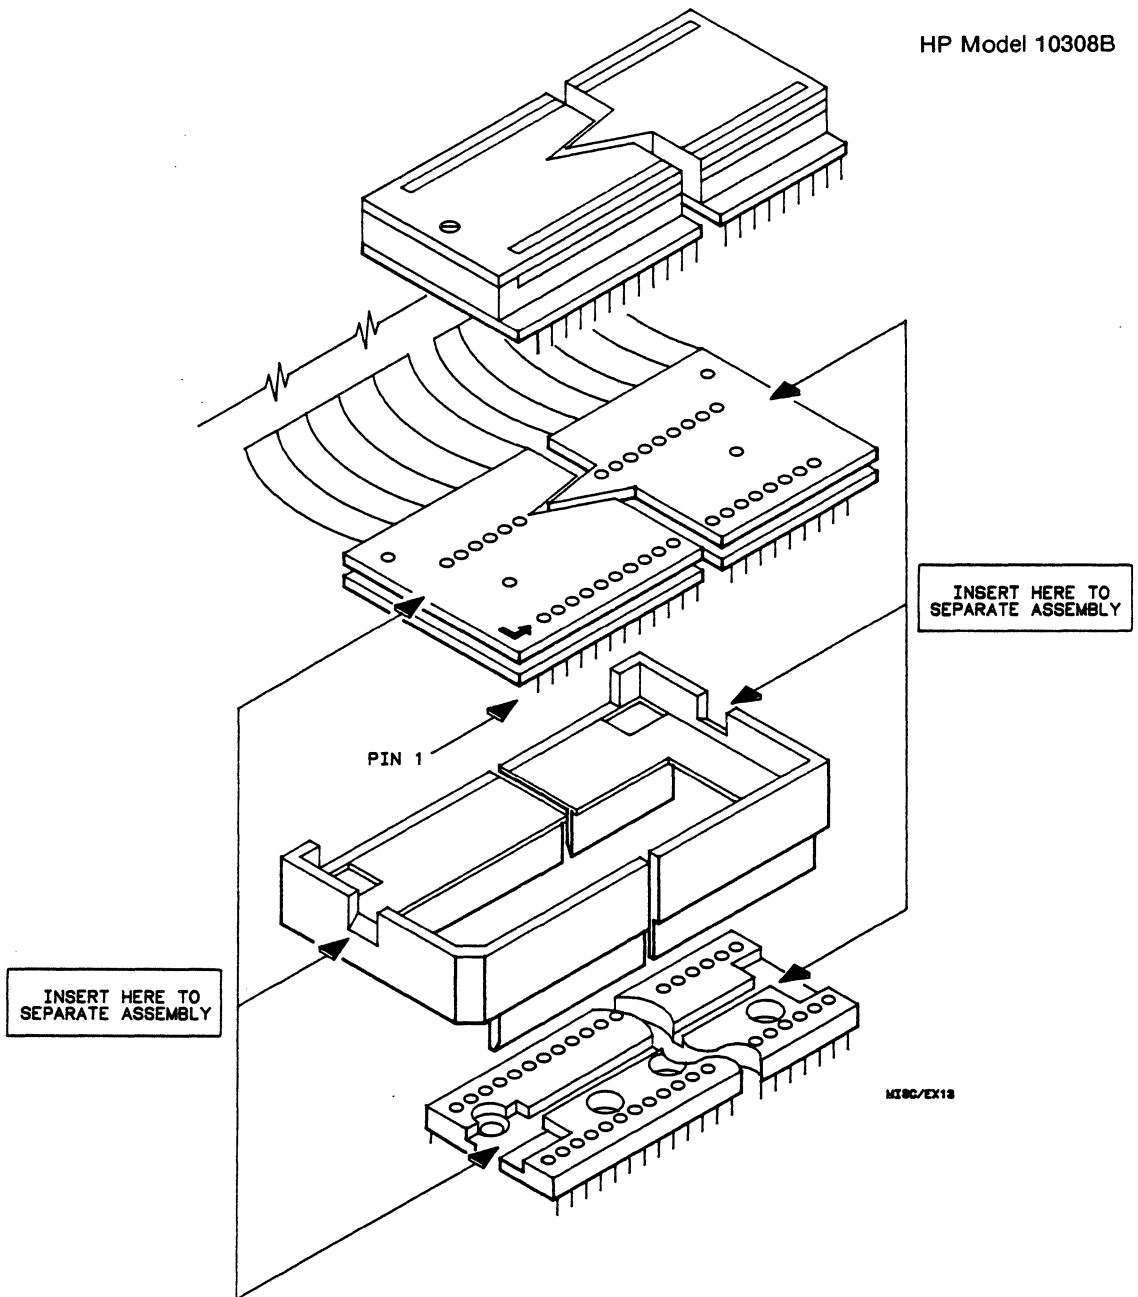

Figure 4. ZIF Socket Assembly (Exploded View)
Care must be taken to align pin 1 of the cable assembly with pin 1 of the microprocessor socket on the target system to prevent mis-alignment or damage. Pin 1 of the cable socket is identified on the socket board and shown in figure 4.
The ZIF socket assembly pins, shown in figure 4, are covered at the time of shipment with either a conductive foam wafer or a conductive plastic pin protector. This is done for two reasons:
1. Separate the ZIF socket assembly by inserting a flat blade screw driver under the PC board located directly below the ZIF socket and carefully prying up the ZIF socket (see figure 4). Avoid bending the pins of the ZIF socket or interface cable assembly.